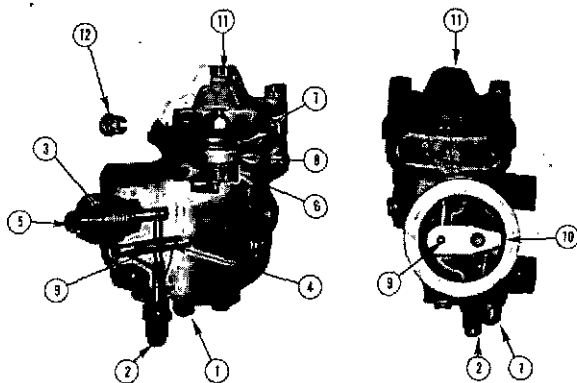

Fig. 5-11, (F-5244). Aneroid cutaway
The aneroid control, Fig. 5-11, provides a fuel by-pass system that responds to air manifold pressure and is used on turbocharged engines for close control of exhaust smoke.
1. Fuel from the fuel pump enters the aneroid and is directed to starting check valve area (5, Fig. 5-11).
2. The starting check valve (3) prevents aneroid from by-passing fuel at engine cranking speeds. For speeds above cranking, fuel pressure forces the check valve open, allowing fuel to flow to valve port (4) of shaft (9).
3. Shaft (9) and its bore form a fuel by-pass valve. This shaft and bore allows passage or restricts fuel flow.
4. The shaft and sleeve are by-passing fuel when arm (10) of lever is resting against adjusting screw (1). The amount of fuel by-passed is adjusted by this screw, which protrudes from bottom of aneroid.
5. The lever arm connected to piston (8) by actuating shaft (6), rotates shaft; closing valve port. The lever is rotated by action of air intake manifold pressure (11) against piston and diaphragm (7), moving actuating shaft downward against resisting spring force.
9. Fuel allowed to pass through by-pass valve is returned (2) to suction side (inlet fitting) of PT gear pump. The by-passed fuel reduces fuel pump out-put to engine and reduces fuel manifold pressure in proportion to the by-pass rate.